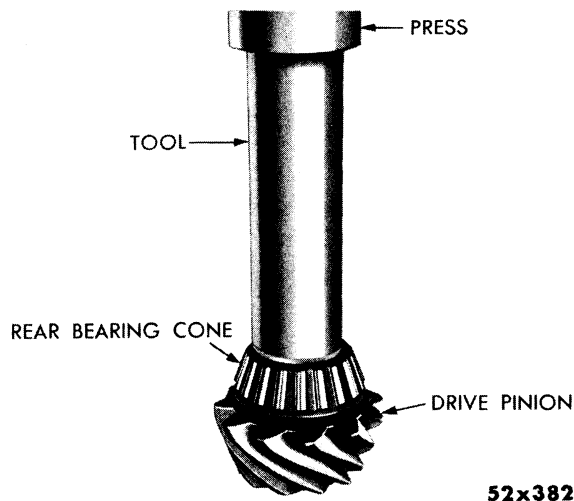
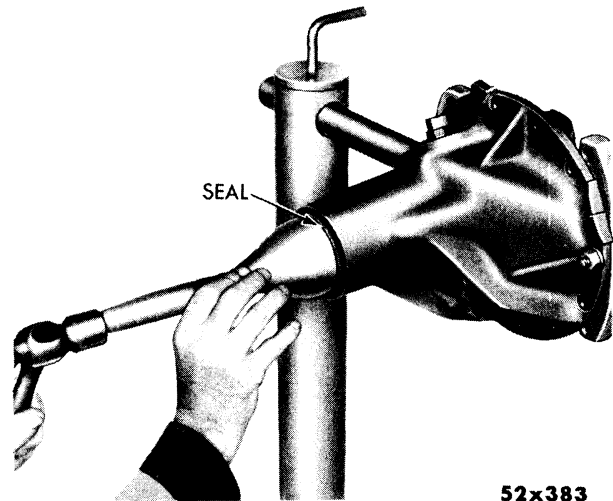

Fig. 40—Installing Bearing on Pinion Shaft
Fig. 41—Installing the Drive Pinion Oil Seal
- (5) Install the pinion in the differential carrier. Slide the bearing spacer, bearing pre-load shim pack, bearing cone and oil slinger over shaft and down into position.
- (6) Install a new oil seal, using driver Tool DD-807, as shown in Figure 40. Install the companion flange, washer and nut. Tighten to 240 minimum foot-pounds torque.
- (10) Slide the pinion washer over the pinion shaft with the chamfered side against the pinion. Install the rear pinion bearing, using Tool C-3095 and a suitable arbor press (See Fig. 40).
- (11) Install the pinion in the differential carrier. Slide the bearing adjusting spacer, bearing and oil slinger over shaft and down into position.
- (12) Install a new oil seal, using driver Tool DD-807, as shown in Figure 41. Install the companion flange, washer and nut. Tighten to 250 minimum foot-pounds torque.